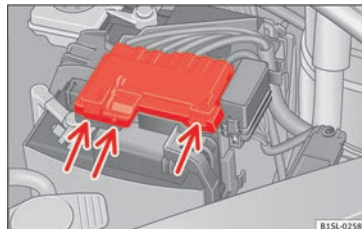

Fig. 172 In the engine compartment: Remove the cover from the vehicle's battery.
- Press on the tabs » **Fig. 172** (arrows) in the direction of the arrows and lift the battery cover up.